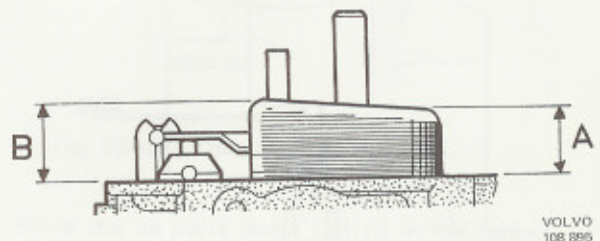

Fig. 23-29. Float level
At the correct float level, the top point on the float should lie 15-17 mm (0.59-0.67") (B, Fig. 23-29) with the lowest point 9-13 mm (0.35-0.51") (A) above the sealing surface of the carburettor housing. If the level is incorrect, adjust by bending the tag at the float valve.